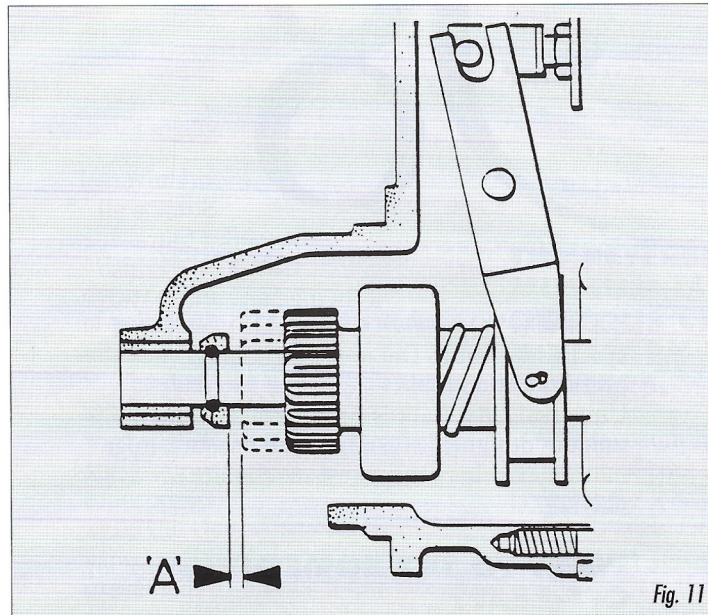

Fig. 11
2. Check in this position that clearance (A) between the pinion and stop is 1.5 mm (.059"). Fig. 11